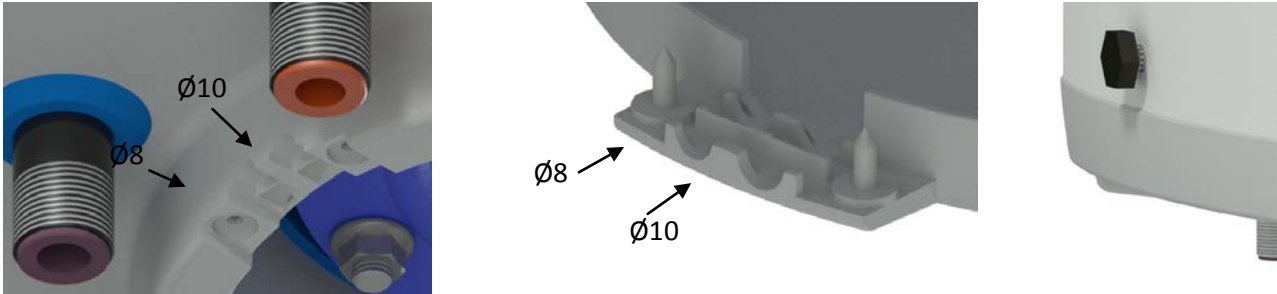
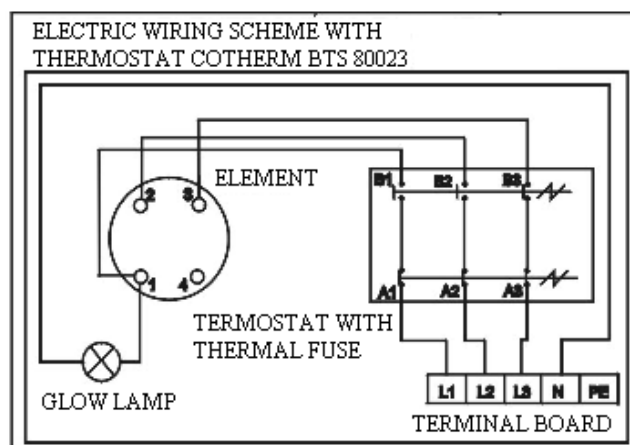

Figure 8
Figure 9
Perform the connection according to the scheme. Factory connection must not be changed! (Figure 9). In the electric wiring casing remove the partition corresponding with the input wire diameter $\phi 8$ or $\phi 10$ (Figure 8). The degree of protection of electric parts of the heater is IP 44. Power input of electric element is 4,000 W.
- The electric wiring scheme is attached to the water heater on the side of the electric installation guard (Figure 9).